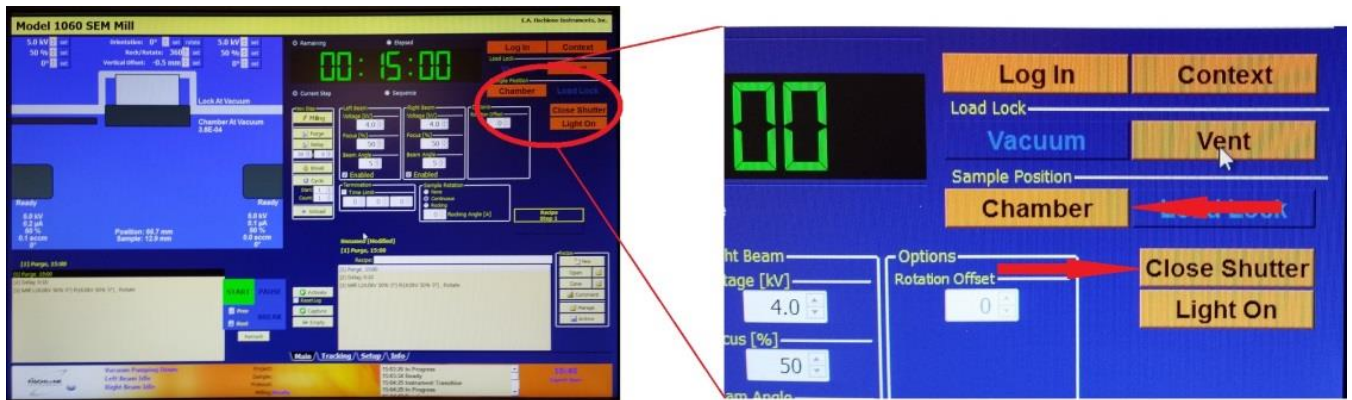

Figure 11
11. Move the sample in to the chamber by clicking on the “**Chamber**” (**Figure 11**) button and close the shutter to the chamber by clicking on the “**Close Shutter**” button. After clicking on “**Close Shutter**” it will change to “**Open Shutter**”. The shutter does not have to be closed during operation; this allows observation of the sample during milling. Leaving the shutter closed is recommended to minimize the buildup of material on the viewing window.